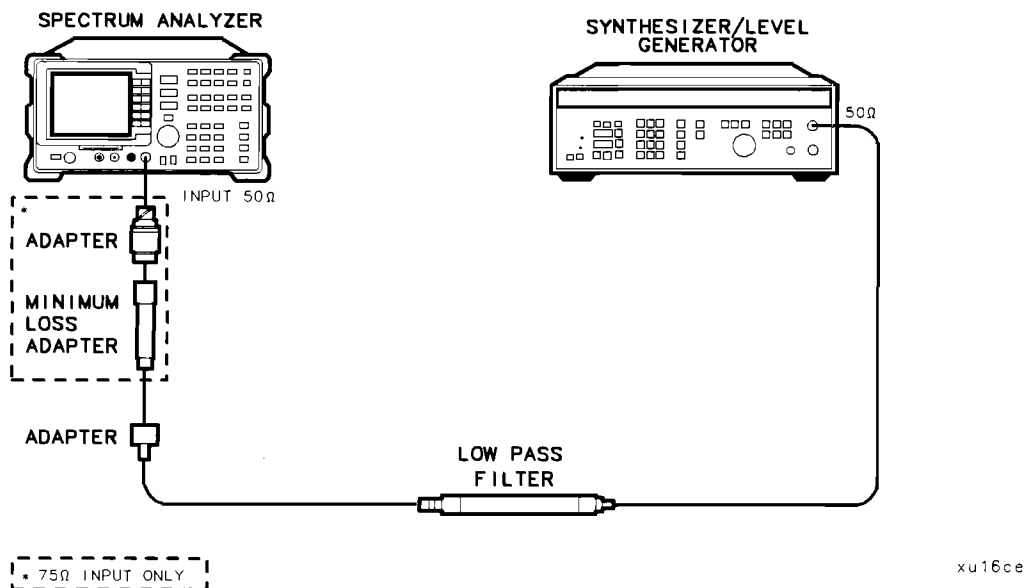

Figure 2-43. Second Harmonic Distortion Test Setup, 30 MHz
2. Connect the equipment as shown in Figure 2-43.